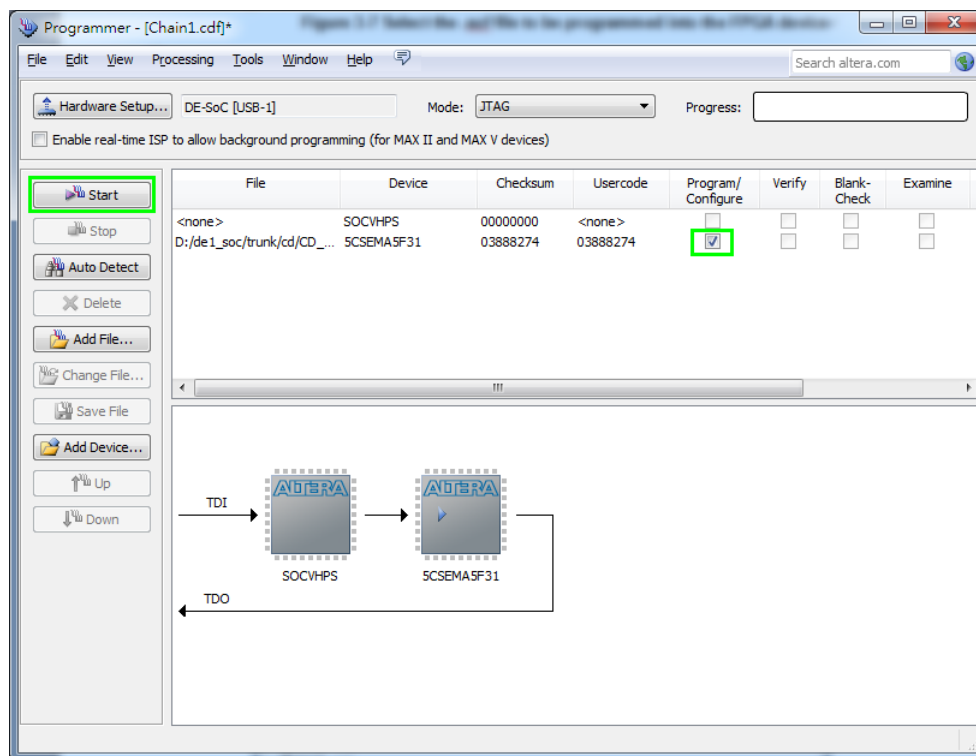

Figure 3-8 Program .sof file into the FPGA device
6. Click “Program/Configure” check box and then click “Start” button to download the .sof file into the FPGA device, as shown in **Figure 3-8**.